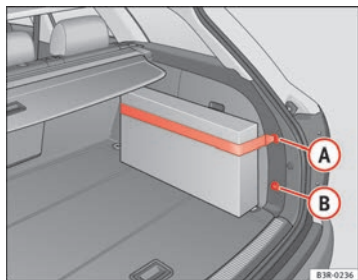

Fig. 119 Retaining strap attached to right-hand side lining
- Hook the retaining strap into housing **A** or **B** ⇒ fig. 119.